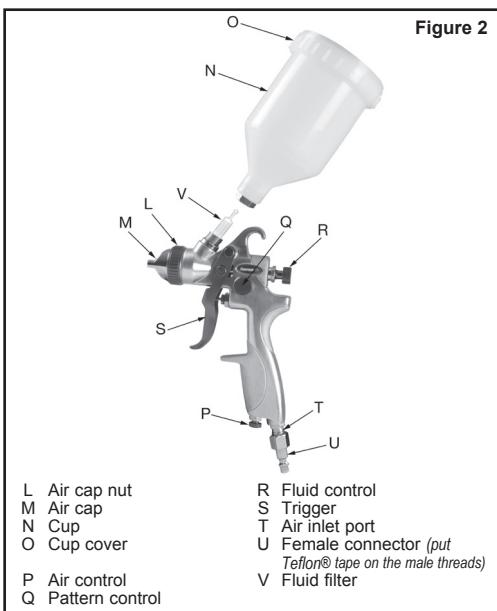

Figure 2
2. Install a 1/4" NPT female connector (included in accessory kit) onto the air inlet port of the tool. (see Figure 2). **Note: Use Teflon® Tape on all threaded connections.**
6. Insert a fluid filter into the fluid inlet (see Figure 2).
- a. Pattern control knob (see Figure 2) - for a full pattern, turn the knob in a counterclockwise direction and for a round pattern, turn the knob clockwise. This knob is used to create the proper pattern of paint as it is sprayed from the spray gun.
- b. Fluid control knob (see Figure 2) - turn in a clockwise direction to reduce the amount of paint and counterclockwise to increase the amount of paint. This knob controls the amount of paint that is mixed with the air. **NOTE: If the fluid control knob is turned in all the way, the gun will emit only air.**